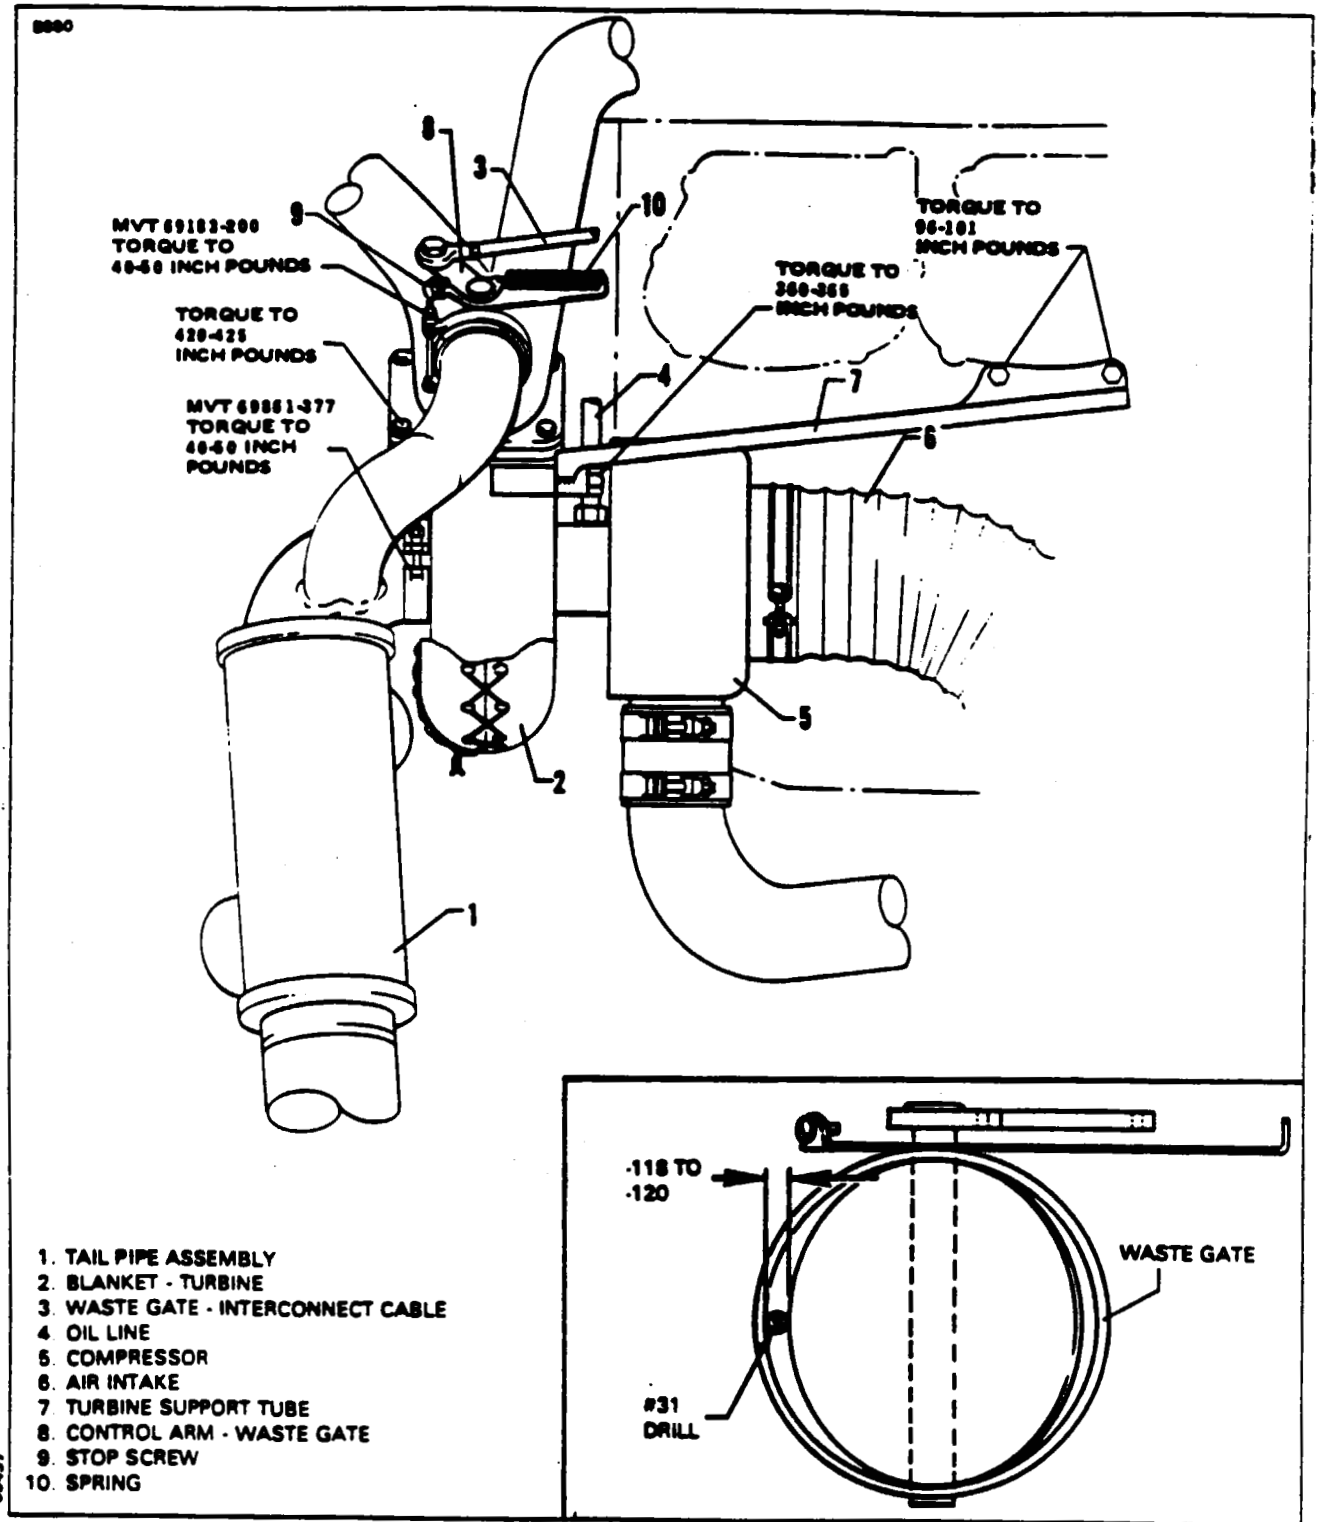

Figure 81-1. Turbocharger Installation
REMOVAL OF TURBOCHARGER. (Refer to Figure 81-1.)
2. Secure wastegate with V band clamps and torque clamps to specifications given in Figure 81-1.
4. Place the shank end of a #31 drill bit between the inner wall of the wastegate assembly and the butterfly valve (Refer to Figure 81-1.)